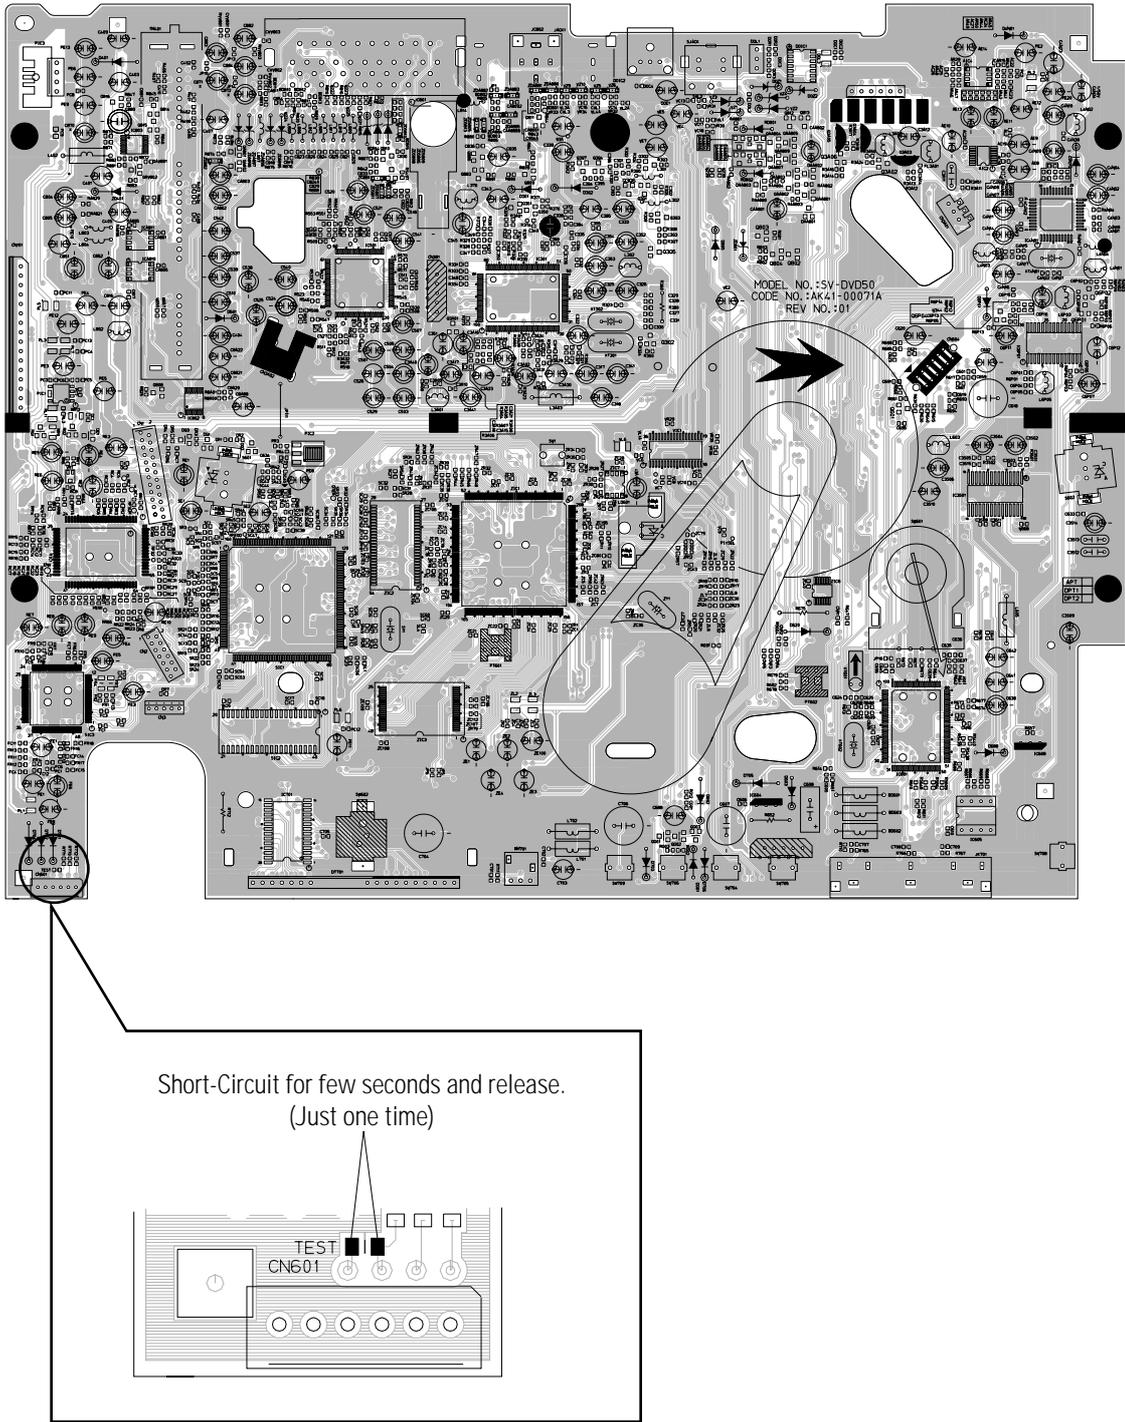

Fig. 6-2 Main PCB (Top View)
- 2) Intermittently short-circuit the two Test Points on Main PCB while setting the adjustment mode. (See Fig. 6-2)
- 1) Intermittently short-circuit the two Test Points on Main PCB. (See Fig. 6-2)